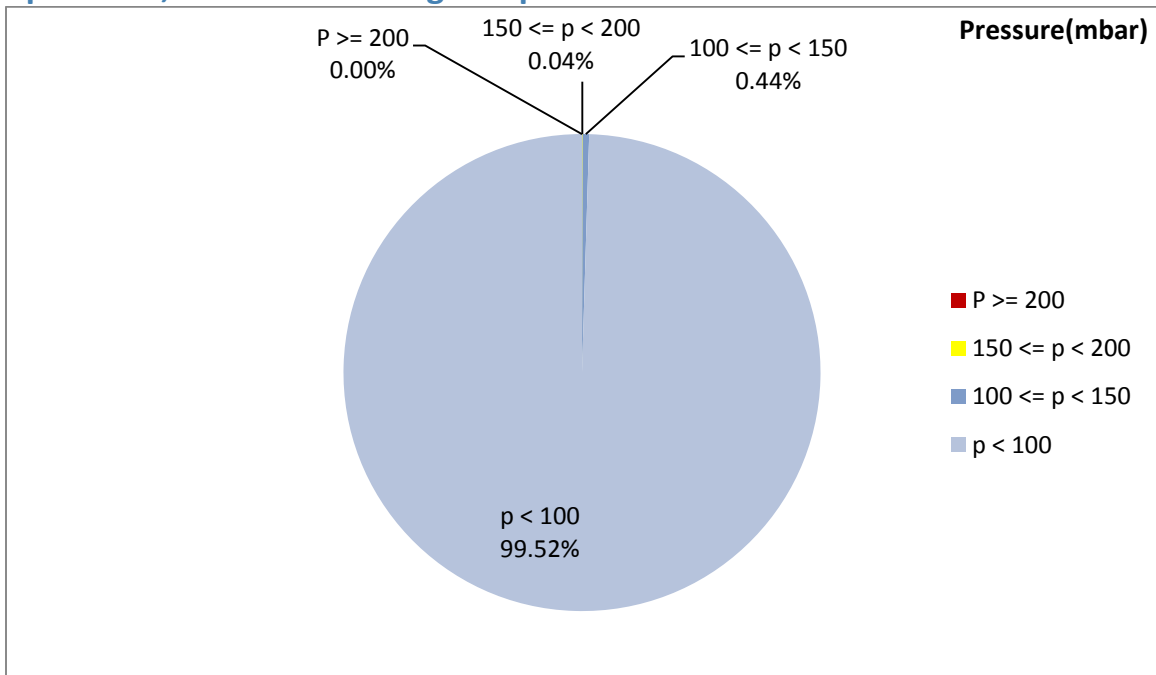

Figure 1- Pressure distribution over the working hours
- As depicted in figure 1, only 0.04% of total working time pressure was above 150 mbar during this period. This low pressure distribution was due to filter cleaning on Oct 5th.